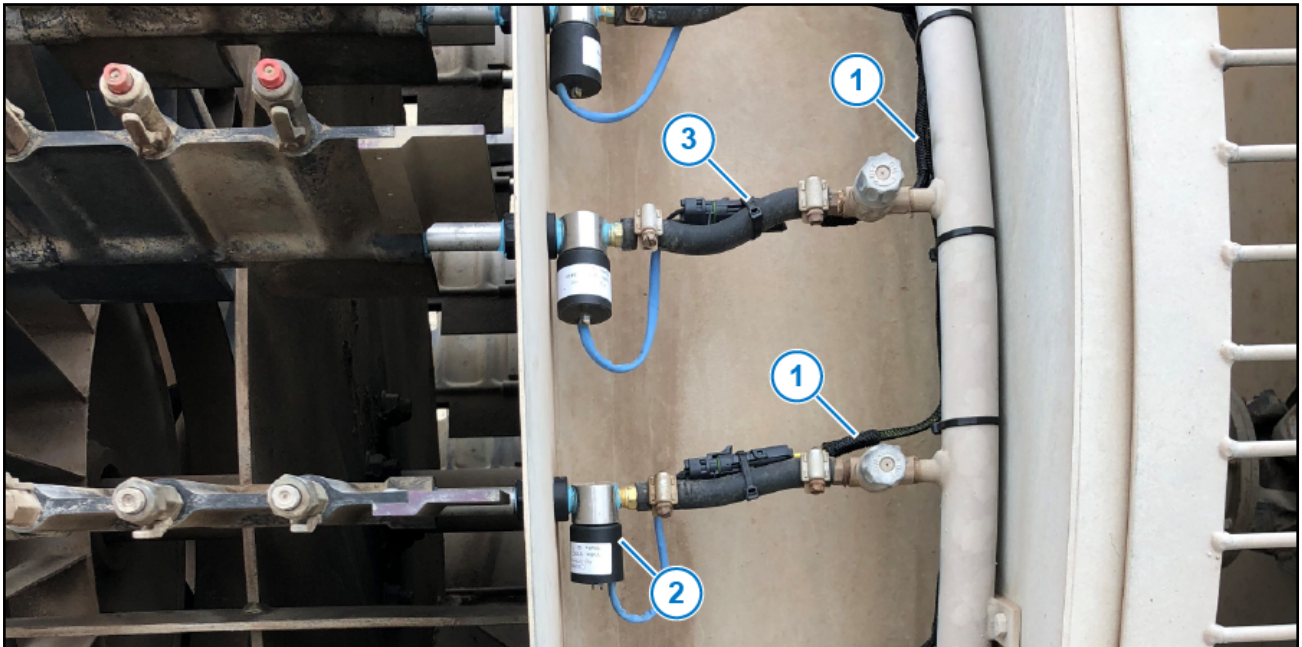

Figure 11: Valve Harness Connections
1. Begin connecting the valve harness (Figure 11, Item 1) to the valves on the sprayer. Connect the valves sequentially.
3. Connect each valve (Figure 11, Item 2) sequentially to the harness.
9. Use the cable ties (Figure 11, Item 3) to attach the harnesses to the machine.